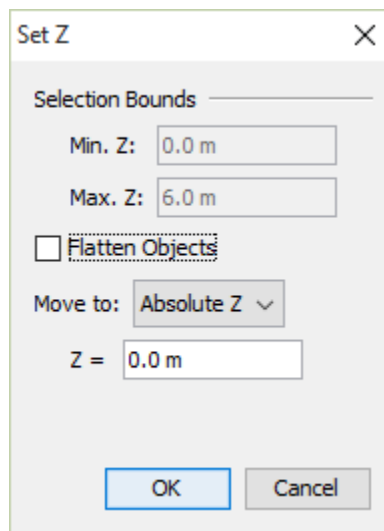

Figure 95. Set Z dialog
Sometimes when importing from 3D CAD models, extracted rooms may not be at the proper height or may have some undesired slope. These issues can be corrected either before or after extracting rooms by using the **Set Z** dialog (Figure 95).
3. This will open the **Set Z** dialog as shown in Figure 95.